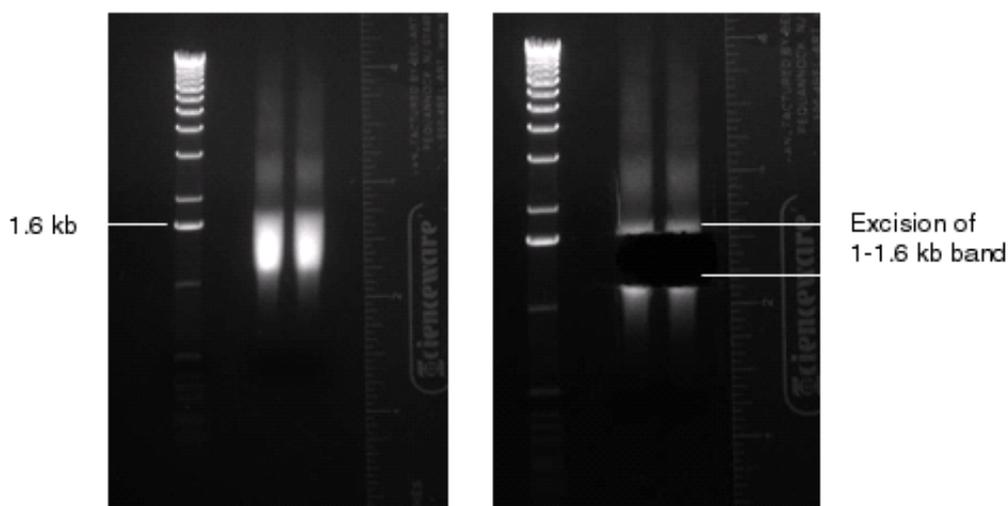

Figure 10 Excision of 1-1.6 kb range in a 1.0% agarose gel.
7. Using the ladder bands and the ruler for reference, excise the band of the gel corresponding to the insert size range of interest with a clean razor blade (see Figure 10 on page 49). If desired, a tighter size selection can be carried out at this stage by taking a tighter cut. If the gel piece is large, slice into smaller pieces.